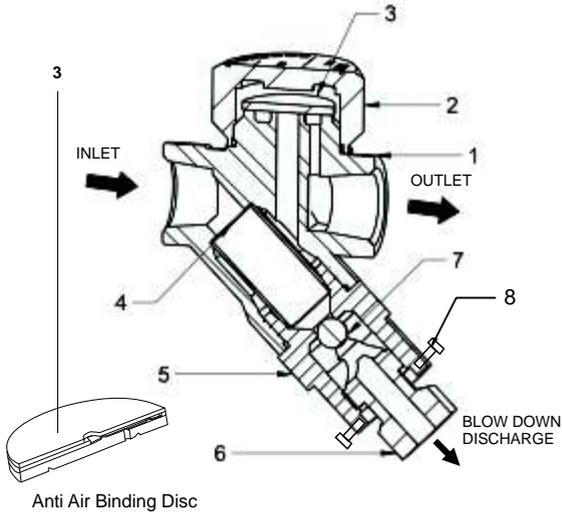

Figure 1: Forbes Marshall Thermodynamic Trap with Blowdown Valve and/or Anti-Airbinding Disc
6.1. Flushing of lines: (Refer to figure 1)
7.4. Procedure to service the disc: [Refer figure 1]